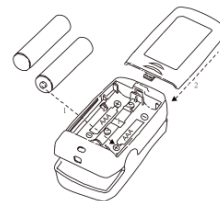

Figure 2 Battery Installation
1. Refer to Figure 2, insert two AAA size batteries into the battery compartment properly, and note the polarity markings.